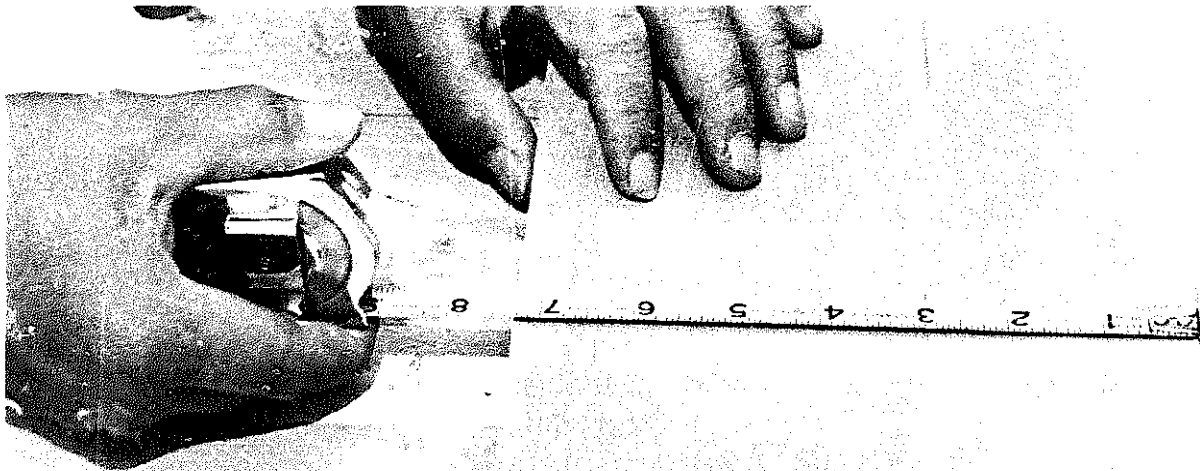

Fig. 2-11 Taking an outside measurement
2. Hook the end of the tape over the end of the object to be measured. See figure 2-11.